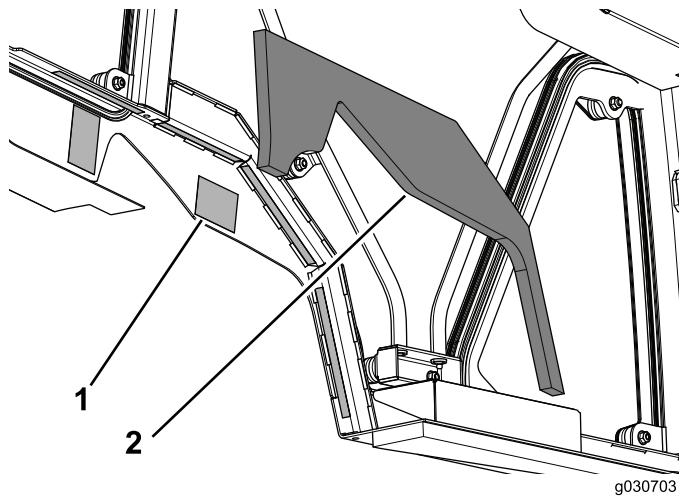

Figure 13
3. Remove the paper backing from the double-faced tape on both sides of the cab unit (Figure 13).
4. Apply the left tank foam to the cab unit (Figure 13).